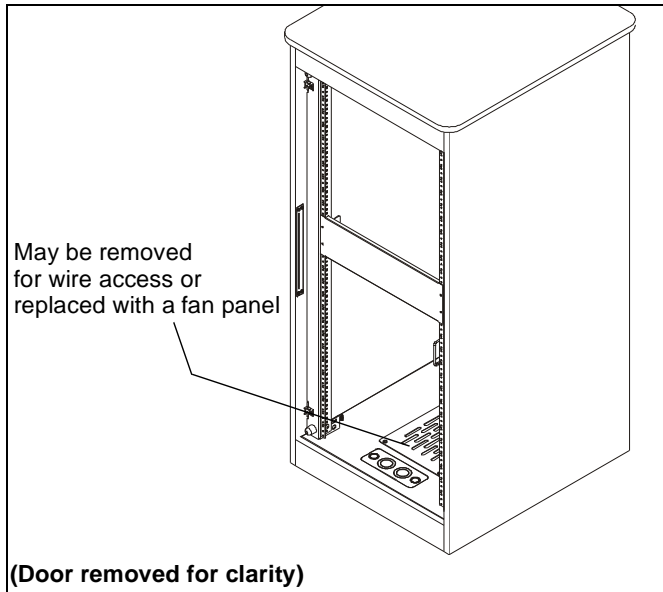

Figure 1
**NOTE:** The bottom cover panel may be removed for wire entry or may be replaced with a filtered fan panel. Follow instructions included with the fan panel. (See Figure 1)